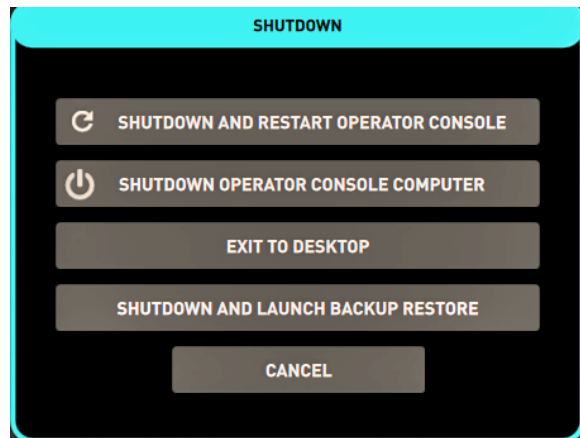

FIGURE 5.41 SHUTDOWN menu
3. The SHUTDOWN menu appears (FIGURE 5.41).